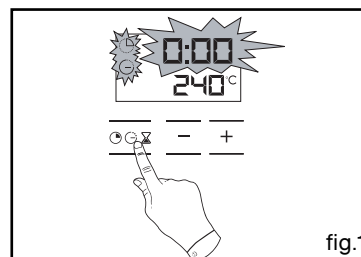

fig.1
- Select the desired cooking mode and adjust the temperature (fig.1).
The display flashes to indicate that you can now adjust the setting (fig.1).
- Press the "⏸" button (fig.1) until the timer symbol begins flashing.